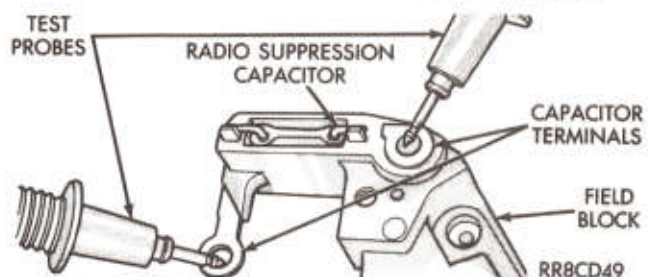

Fig. 6—Test Field Block Radio Capacitor
(4) Turn the field block over and test for continuity across the radio suppression capacitor terminals; it should test open (Fig. 6).